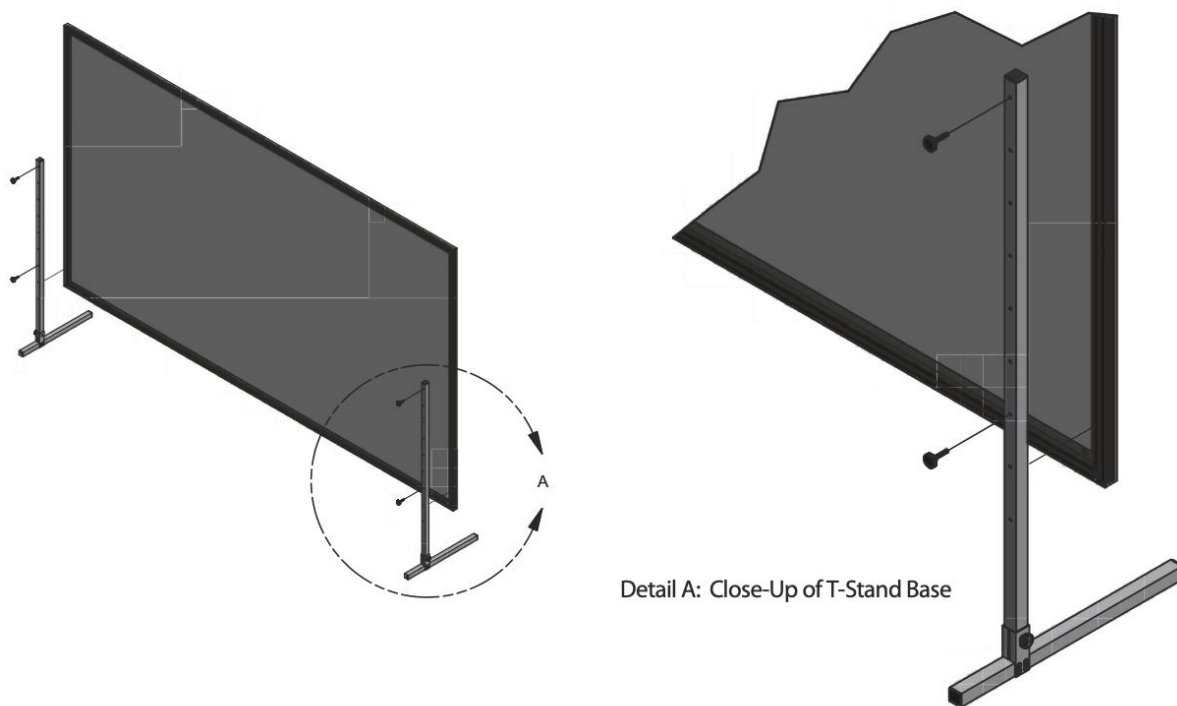

Figure 9. Attaching T-Stand Knobs
2. Use the T-Stand knobs provided to first attach the vertical members to each base, then attach the finished screen (frame/screen assembly) to the T-Stands. The through holes on each vertical member should run parallel to the base (refer to Figure 9).